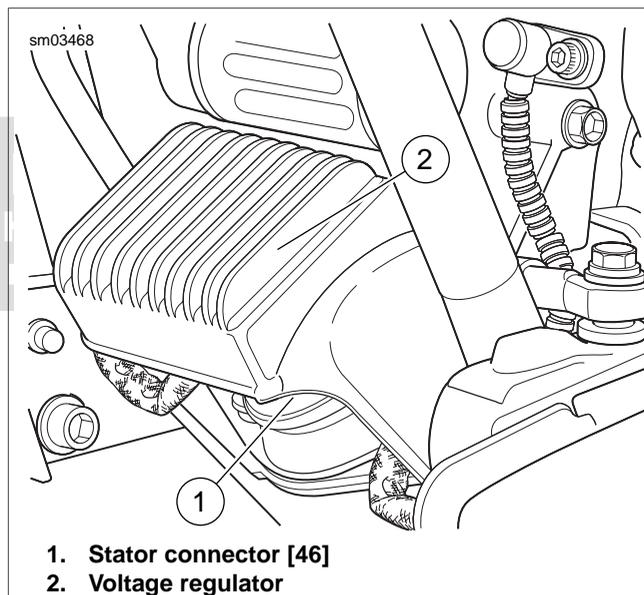

Figure 8-79. Voltage Regulator (Left Side View)
6. Pull away locking latch and remove socket of stator connector [46], 3-place Lyall, at bottom left side of voltage regulator. See Figure 8-79.
7. Feed socket and conduit under front engine stabilizer link and then forward along outboard side of voltage regulator leg. See Figure 8-79.